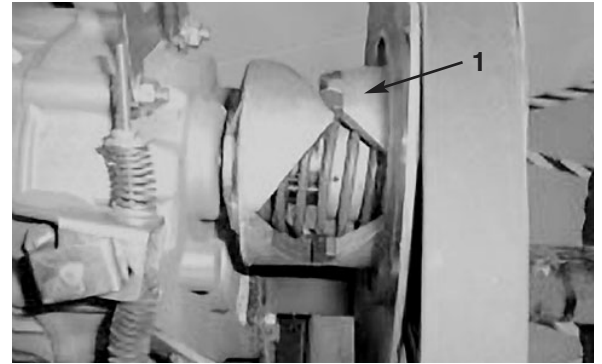

Figure 17
3. Ensure that the transaxle is locked in neutral by rotating the secondary clutch (Fig. 17). No tire rotation should occur.